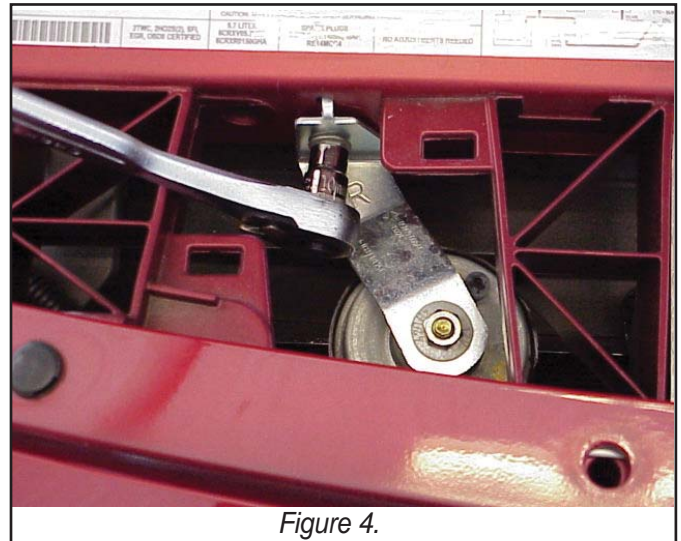
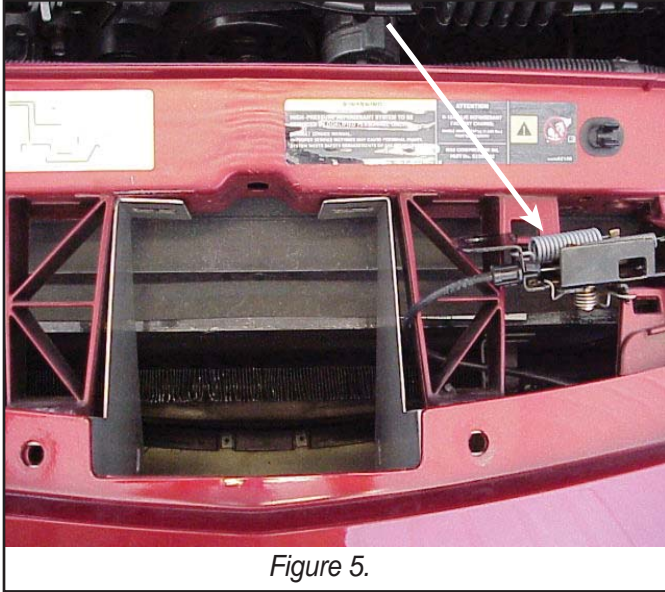

Figure 4.
Figure 5.
4. Remove passenger and drivers side horn using wrench or ratchet. Both horns are removed with one bolt each. See figure 4. Horn removal will make installation and speaker and bracket installation easier to access.
5. Place brackets into open space in the middle between grille and radiator cross bar as shown in figure 4. Top side of brackets will sit underneath front fascia and on top of support beams. After brackets are in place, re-install pop up tabs that were removed in step 4. Note placement in figure 5 of hood latch.